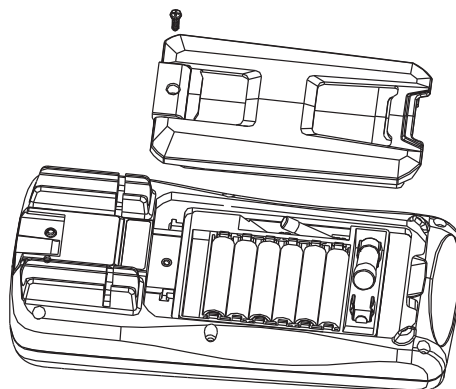

Figure 15
2. Replacement of battery or fuse tube (see Figure 15)